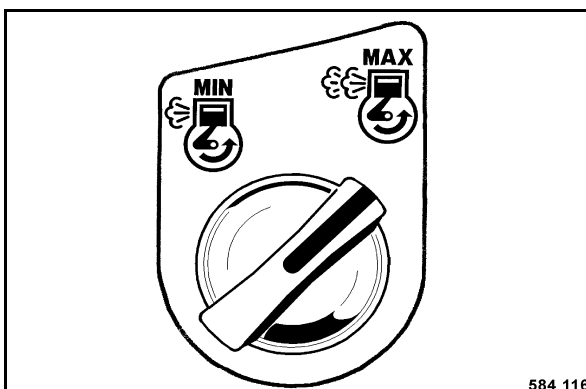

Fig. 134
- Turn the rotary momentary contact switch for engine speed (Fig. 134) clockwise to "MAX".